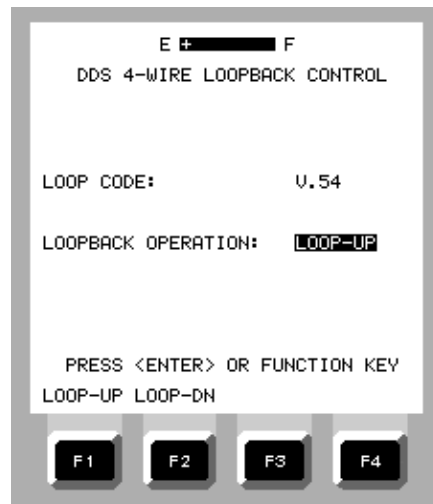

Figure 2-158. DDS 4-WIRE LOOPBACK CONTROL Screen
4. On the DDS 4-WIRE LOOPBACK CONTROL screen (Figure 2-158) select the type of loop code required. If the tester is set up for OCU emulation, use the F keys to select the type of loop code.